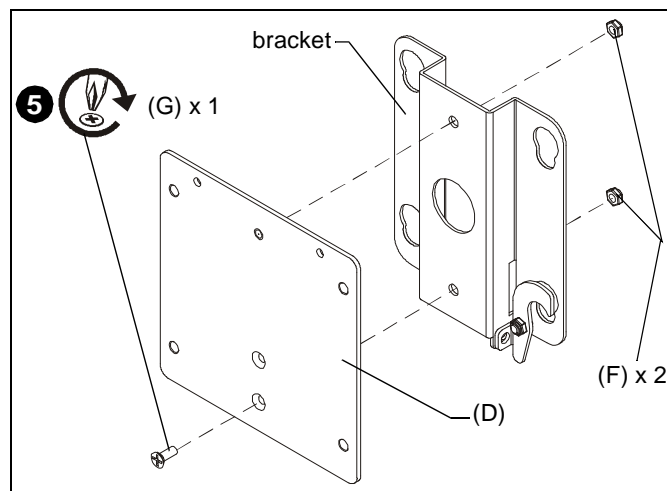

Figure 3
5. Fasten attachment plate (D) to bracket using one 10-24 x 1/2" Phillips undercut machine screw (G) and two 10-24 nylon locknuts (F). (See Figure 3)